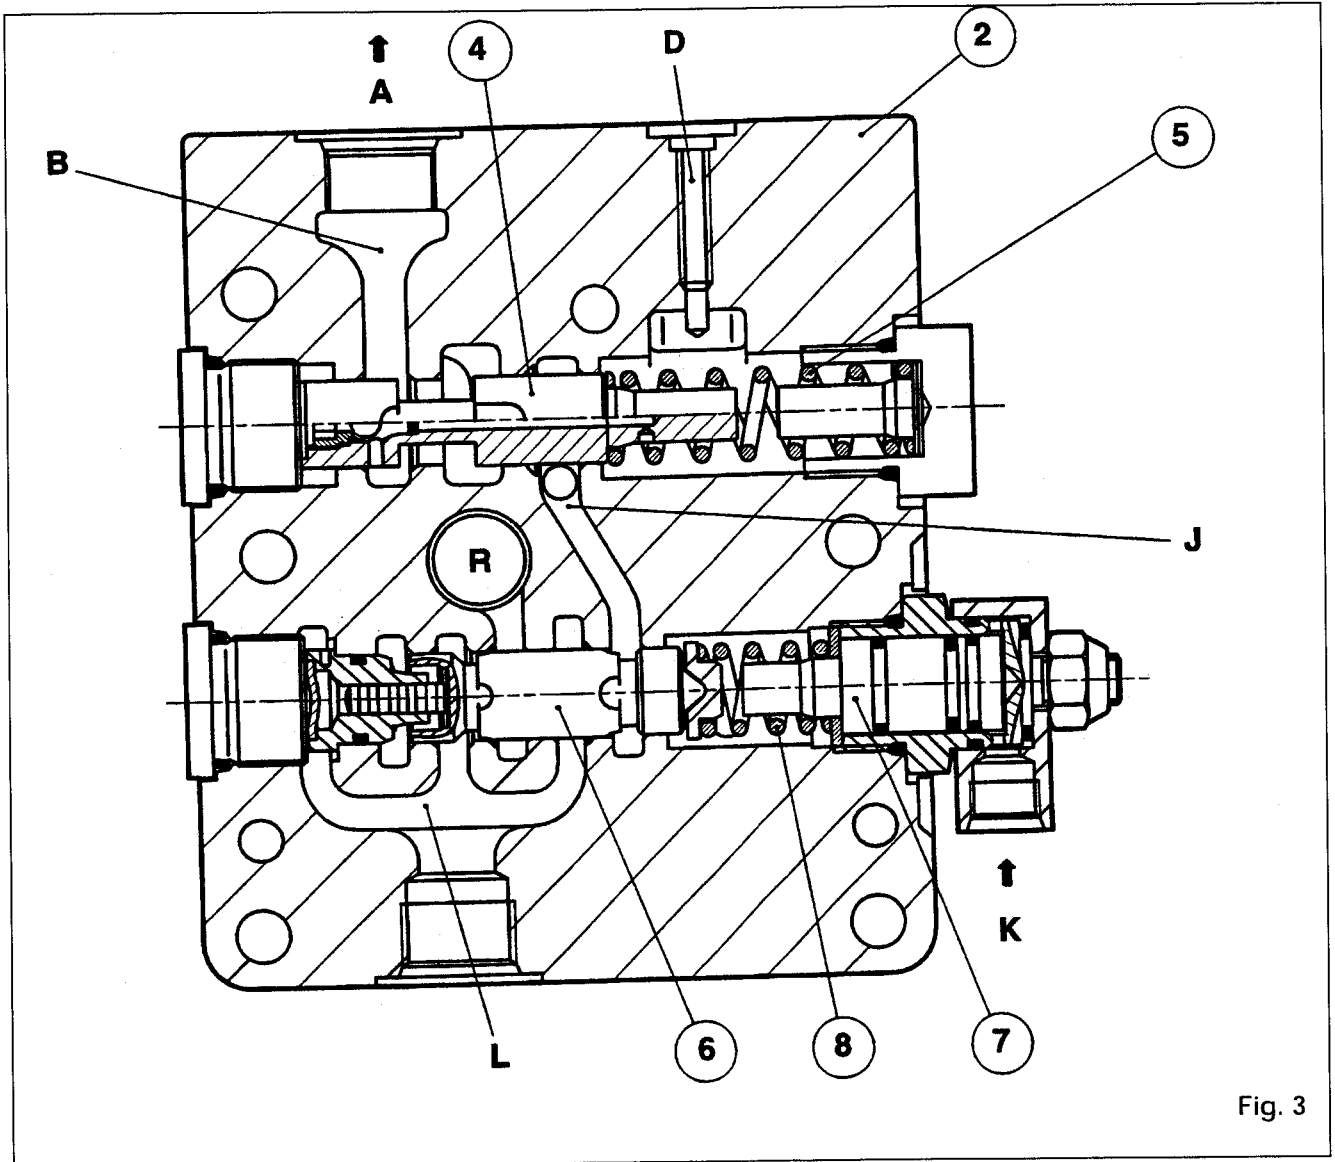

Fig. 3
#### Steering override spool (4) (Fig. 3)
#### Trailer brake spool (6) (Fig. 3)
The override unit (50) which includes two spools (Fig. 3) installed on the right-hand cover (54) receives flow from the variable displacement pump. It ensures that priority flows are provided to the steering circuit via the trailer brake unit (if fitted) and the low-pressure circuit (17 bars). The oil is then conveyed to the lift control valve and the auxiliary spool valves.